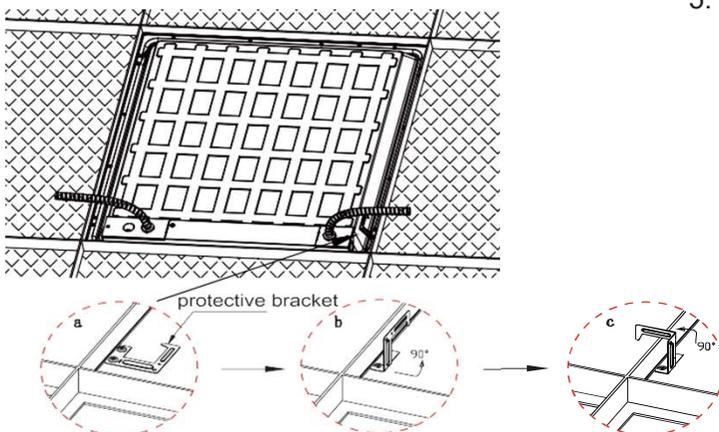

Figure 3
5. Grid clips are provided for additional retention to ceiling system. Orient the tabs on back of the fixture over the grid by bending tabs up 90 degrees perpendicular to back of the fixture. Next bend tabs 90 degrees towards T-GRID frame (Fig.3)
3. Place the panel into the flange kit and connect the input lines. Installation complete. (Fig 3)